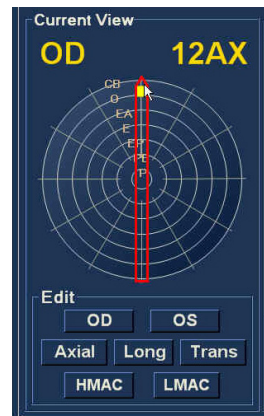

Figure 4.19 - First Scan Editing View
2. Probe positioning for a scan is illustrated graphically by a wheel, representing the hours of the clock. There is an indicator with an arrow at one end which indicates the position and can be dragged to edit the probe position. When you initially select the position wheel to edit the current view the first scan defaults to the I2AX [Axial] probe position, with I2 being the 12:00 position as shown in Figure 4.19.